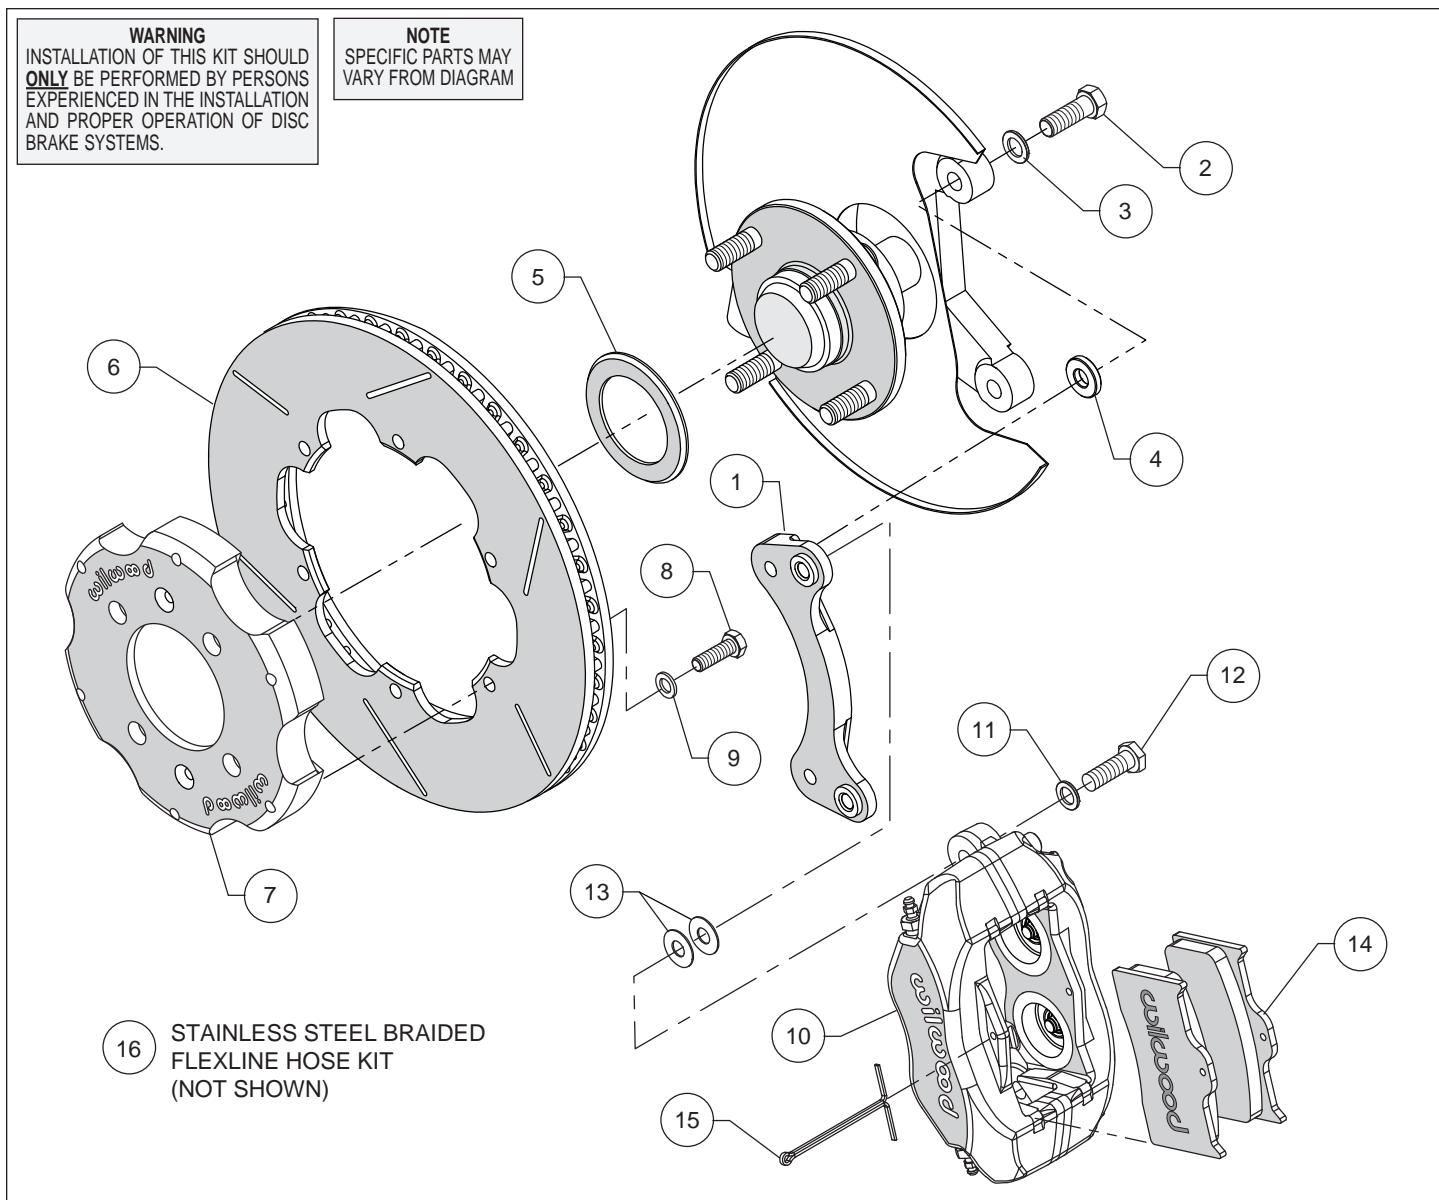
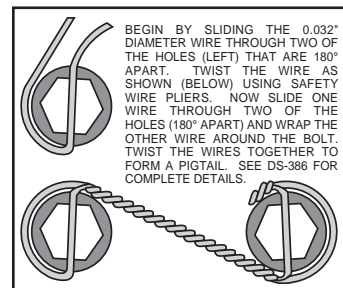
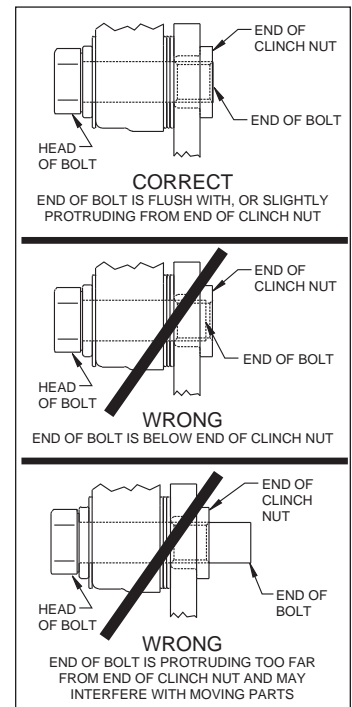

Figure 1. Typical Installation Configuration
Figure 3. Safety Wire Diagram
Figure 4. Clinch Nut Engagement Diagram
Assembly Instructions (numbers in parenthesis refer to the parts list and Figure 1 on the preceding pages): **CAUTION:** All mounting bolts must fully engage clinch nuts. Be sure to check that all bolts are either flush or protruding through flanged side of clinch nut after shimming, Figure 4.
- Orient the caliper mount bracket (1) as shown in Figure 1 and Photo 1, and install using bolts (2) and washers (3). Place a spacer (4) on each bolt between the bracket and caliper mounting bosses, Figure 1 and Photo 2. Ensure that the flanged heads of the clinch nuts in the bracket are facing outboard, Photo 1. Temporarily tighten the mounting bolts. **NOTE:** The bracket must fit squarely against the mount bosses on the upright. Inspect for interference from casting irregularities, machining ridges, burrs, etc. Remove bolts one at a time, apply red *Loctite*® 271 to the threads and torque to 30 ft-lb.
- Orient the rotor (6) and the hat (7) as shown in Figure 1 and Photo 3. Attach rotor to hat using bolts (8) and washers (9). Using an alternating sequence, apply red *Loctite*® 271 to the threads, and torque to 25 ft-lbs. Safety wire bolts using standard 0.032 inch diameter stainless steel safety wire as shown in Figure 3. Please refer to Wilwood's data sheet DS-386 (available at www.wilwood.com/Pdf/DataSheets/ds386.pdf) for complete safety wire installation instructions.
- **NOTE:** Please reference the caution statement at the beginning of the assembly instructions. Mount the caliper (10) onto the caliper mounting bracket (1) using bolts (12) and washers (11), as shown in Figure 1. Initially place two .035" thick shims (13) on each bolt between the caliper and the bracket, Photo 5. Temporarily tighten the mounting bolts and view the rotor (6) through the top opening of the caliper. The rotor should be centered in the caliper, Photo 6. If not, adjust by adding or subtracting shims between the bracket and the caliper. Always use the same amount of shims on each of the two mounting bolts. **NOTE:** The end of each bolt must be flush with or slightly protruding from the head of the clinch nut, as shown in Figure 4. If necessary place spare shims between washer (11) and caliper mounting ear to achieve the proper clinch nut engagement. Once the caliper alignment and clinch nut engagement are correct, remove the bolts one at a time, apply red *Loctite*® 271 to bolt threads, and torque to 40 ft-lb. For an added measure of safety, bolt may be safety wired using standard 0.032 inch diameter stainless steel safety wire as shown in Figure 3. Please refer to Wilwood's data sheet DS-386 (available at www.wilwood.com/Pdf/DataSheets/ds386.pdf) for complete safety wire installation instructions.